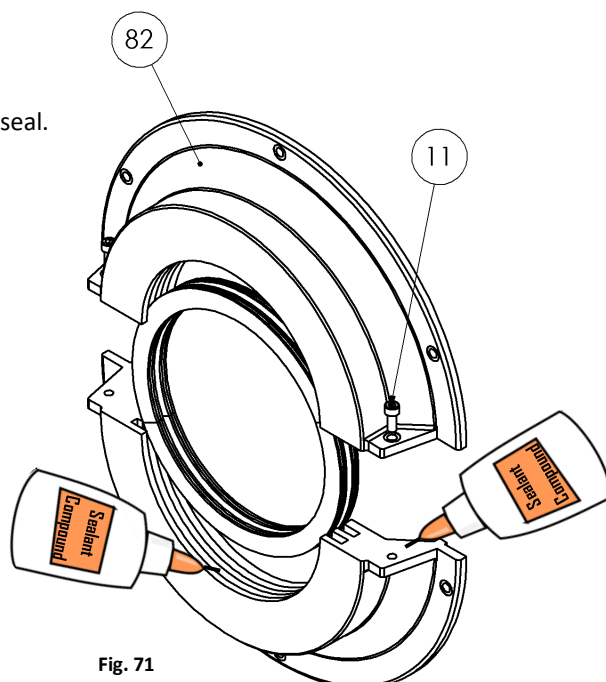

Fig. 71
- Apply sealant compound to the split surfaces in the special machine seal (82) (Fig. 71).